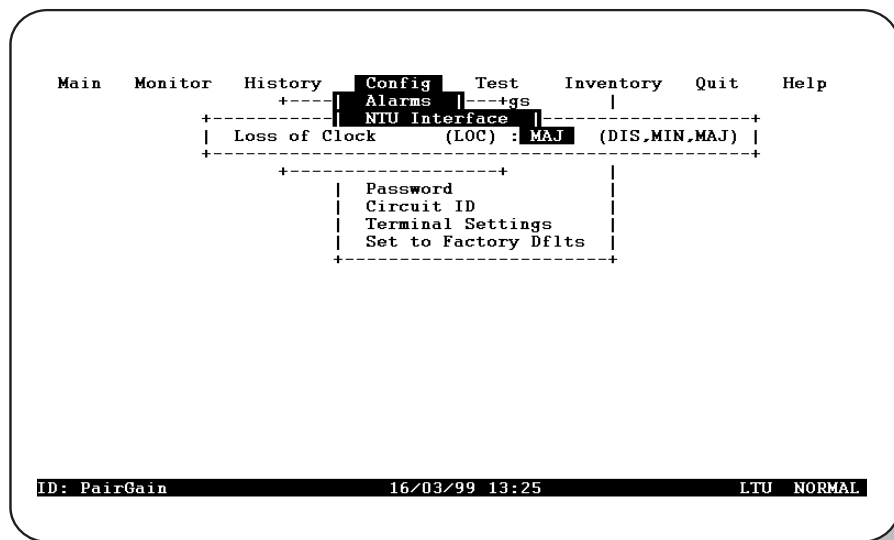

Figure 28. Config Alarms NTU Interface Menu
- **N** for the *Config Alarms NTU Interface* menu (Figure 28)